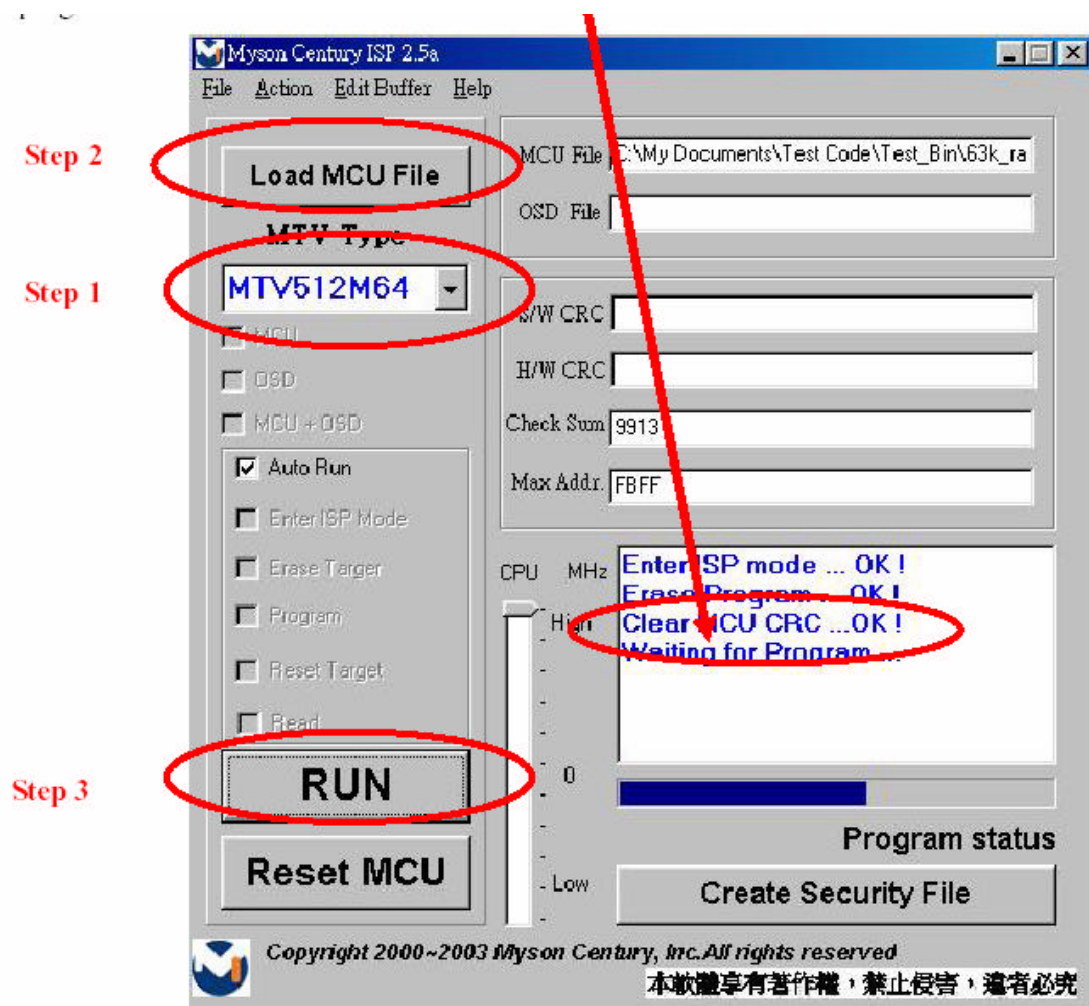

Fig 3.1
- 9.1 Select MTV type first , load the binary or intel hex file that you want to program into the MCU , and select “AUTO” item , then press “RUN “ button , see fig3.1